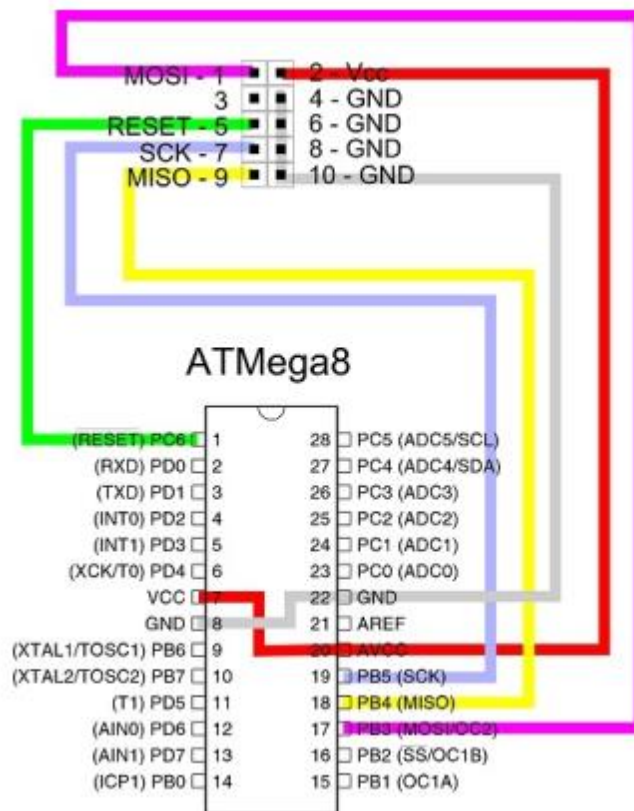

Figure 1: Microcontroller to In-System Programmer Connections
1. Wire the Atmega8 processor in the breadboard with AVR Programmer as shown in Figure 1.